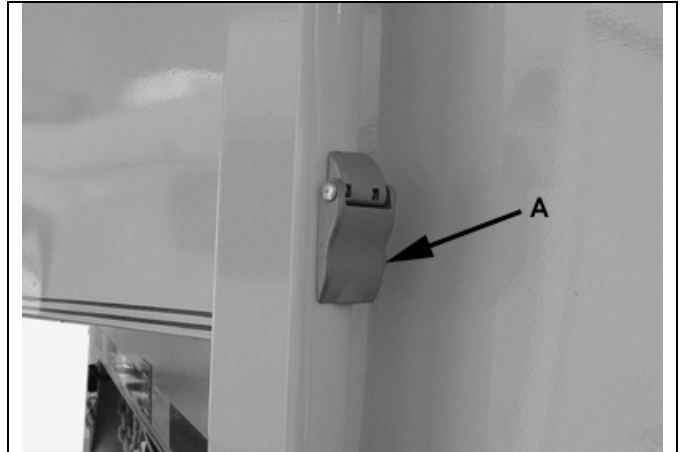

Figure 10-2 – Open Awning Latches
- Open the latches (A) on each awning main arm. See figure 10-2.